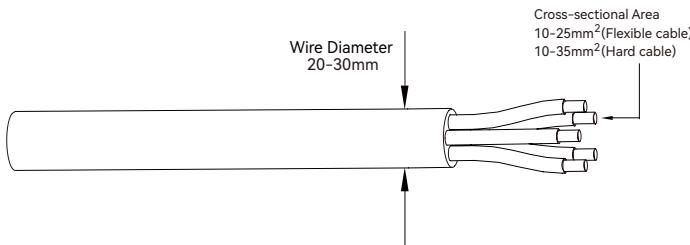

Figure 5-4
② According to the figure 5-4, select an appropriate cable, peel the insulation sleeve of AC cable off for 95-100mm, and peel off the end of 3L/PE / N wires for 15mm.